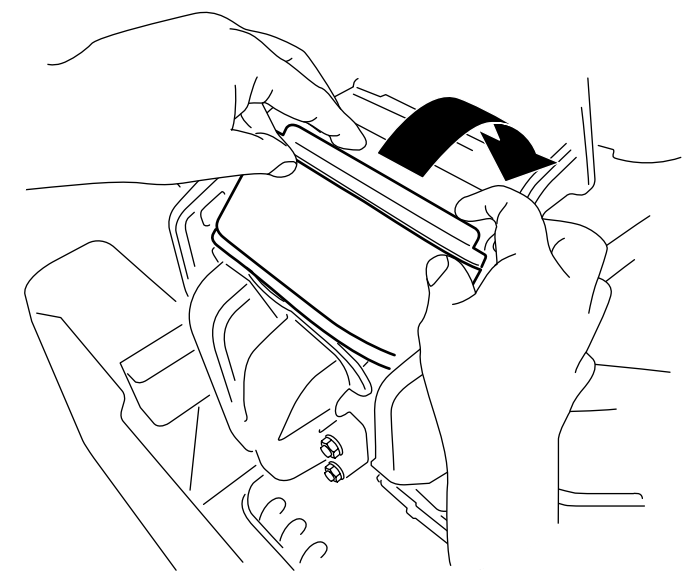

Figure 41
- 3. Rotate the filter down into the chamber and fully seat it against the manifold (Figure 41).